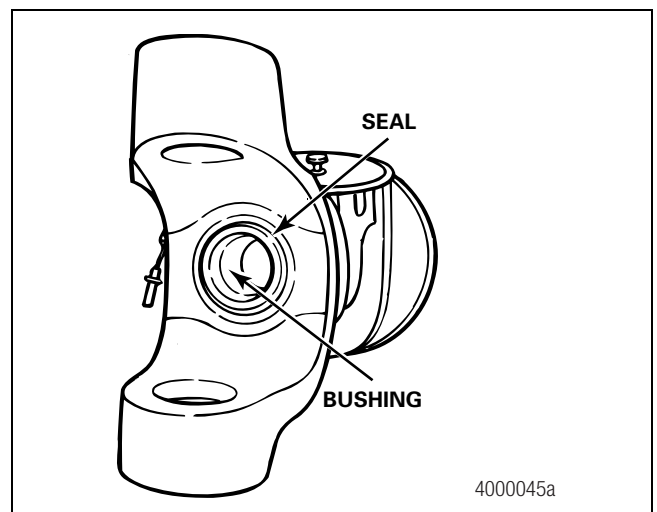

Figure 3.24
2. If required, remove the inner axle shaft oil seal and bushing from the axle housing. Figure 3.24.